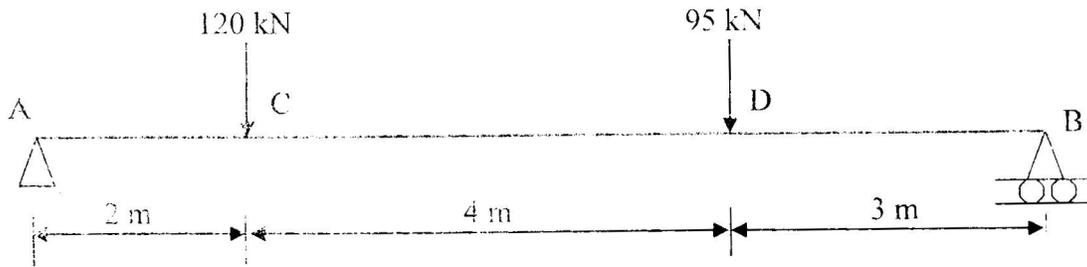

Figure 2
12. Determine the deflection and slope under the beam shown in Figure 2 by conjugate beam method.  $E=200\text{GPa}$ ,  $I=15 \times 10^{-4} \text{ m}^4$ .